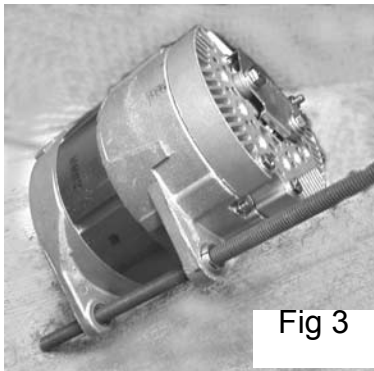

Fig 3
Step 1: Place stator on rear housing and attach stator terminals to alternator AC studs. Attach nuts and torque to 17-23 in-lbs. See Fig 3
Step 4: On J-180 mount alternators, insert a 1/2" rod through the two mounting holes. This will aid in lining up the through bolts holes. See Fig 3